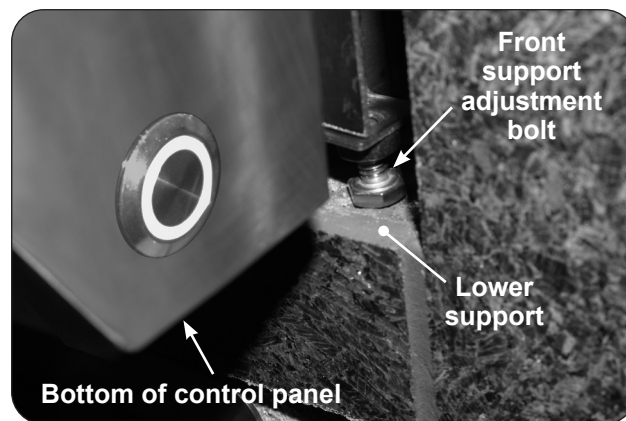

Fig. 23-2 Front support adjustment bolts
4. Rotate the front support adjustment bolts (up or down) until the grill hanger rests flush on the countertop, AND, the adjustment bolts are touching the supporting structure found at the bottom of the cutout (lower support). Use an 11 mm open-end wrench as needed. See Fig. 23-2.